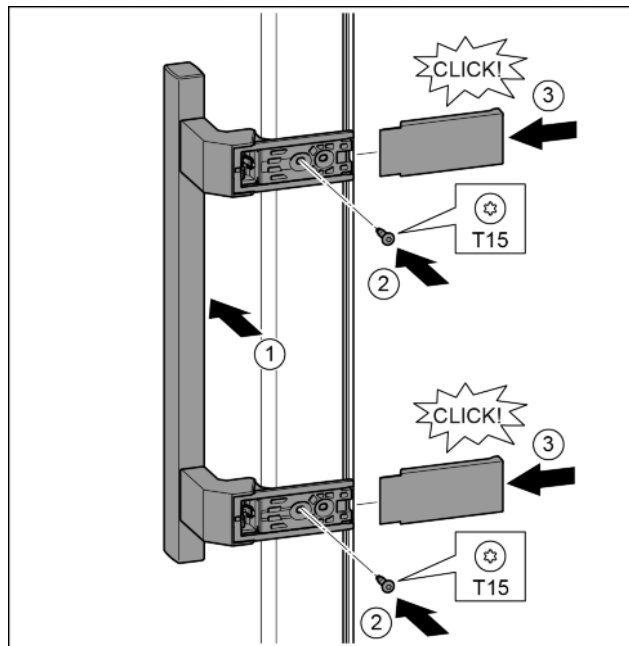

Fig. 22
- Position the handle on the other side. Fig. 22 (1)
- Tighten the screws with the T15 screwdriver. Fig. 22 (2)
- Position the covers on the side and push in. Fig. 22 (3)